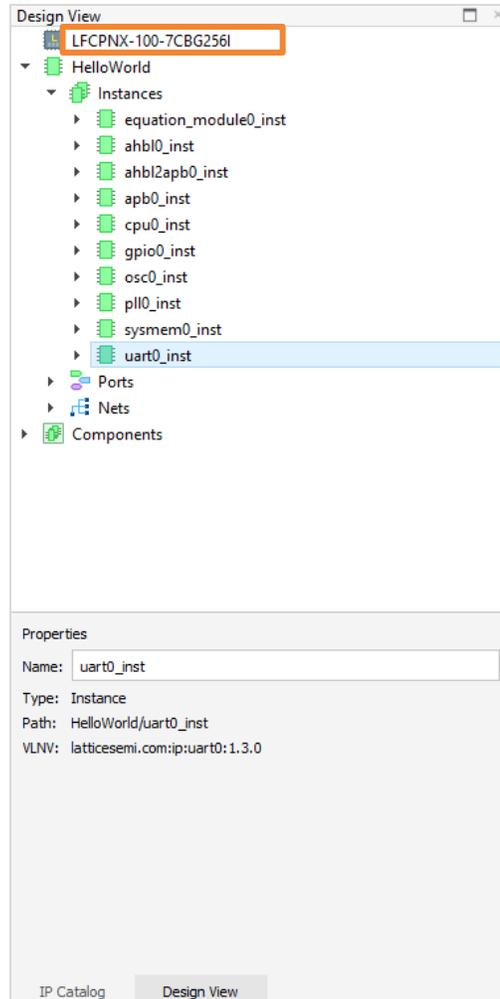

Figure 2.141. Design View of Device Part Number
4. Click **Yes**. By clicking **Yes**, the Builder engine regenerates each IP in the project with the updated device settings. All IPs in current project are configured. The new device part number shows in Design View (Figure 2.141).